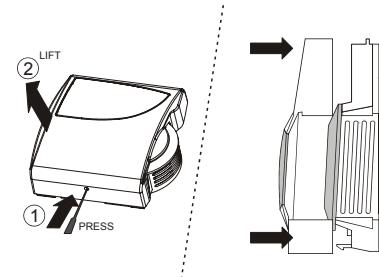

Fig. 2. Cover disassembly / assembly
The sub-base mounts separately for ease of installation; to disassemble the cover and the sub-base, see Fig. 2.
- The cover of the wall module is fixed by a tab on the underside of the unit; to disassemble the cover and the sub-base, see Fig. 2.
- Remount the cover as shown in Fig. 2 and make sure that the tab on the underside engages.